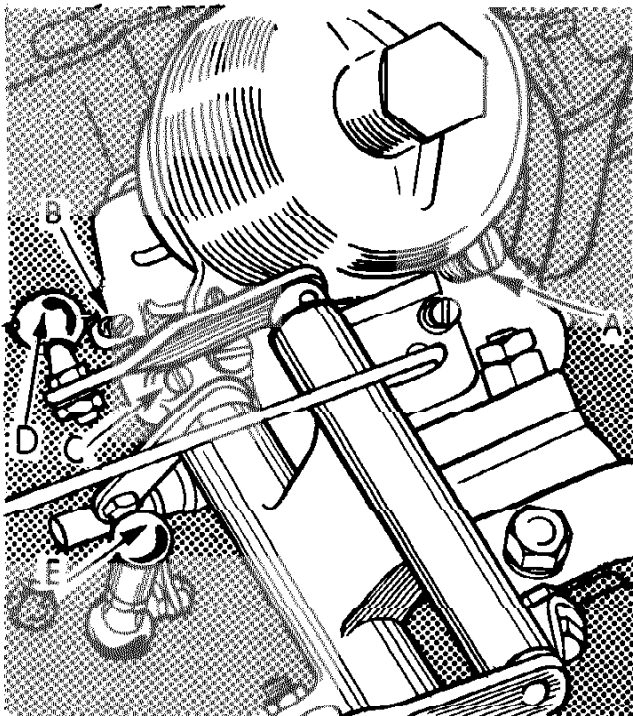

Figure E18
ADJUSTING COLD STARTING THROTTLE SETTING Fig. E18
The cold starting throttle setting can be set when the carburettors are being synchronised and the most opportune time is while the engine is reaching its normal working temperature and is effected by manipulating the screw (C) situated in the plate at the top end of the vertical push rod. (Fig. E18).
TO SYNCHRONISE THE CARBURETTORS Fig. E18